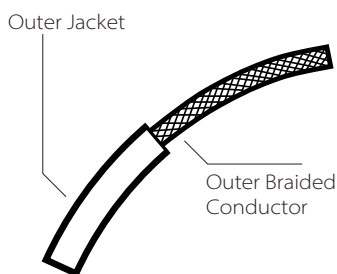

Fig. 1
1. Use Fig.1 (top view of the assembly) to map the locations and install the Canopy (P1), and provided Anchors (A-C).
3. Note the volume of the assembled fixture, the top of Subassembly P1 will be the top of the fixture. Use this to adjust the assembly height. See Fig. 1-B to confirm the suspension point locations in the final assembly.
4. Note the Back plane in Fig. 1-B. This is called out to help determine the orientation of subassemblies and connectors during assembly.
1. Make a 1" slice along the length of the cord's outer jacket (Fig. 1).
2. Carefully strip the outer jacket of the cord and keep the outer braided conductors intact (Fig. 1).